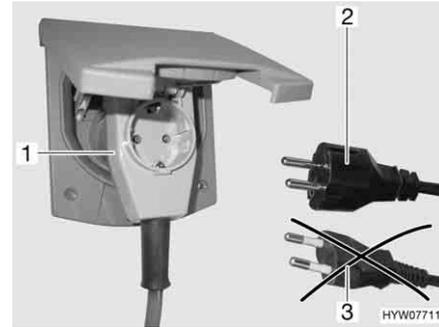

Fig. 158 Connecting an angled connector with socket
- ▶ When using a CEE 17 angled connector with rear socket (Fig. 158,1) only use a rubberised and sealed IP 44 socket with earth contact (Fig. 158,2). Do not use sockets without earth contact (Fig. 158,3).